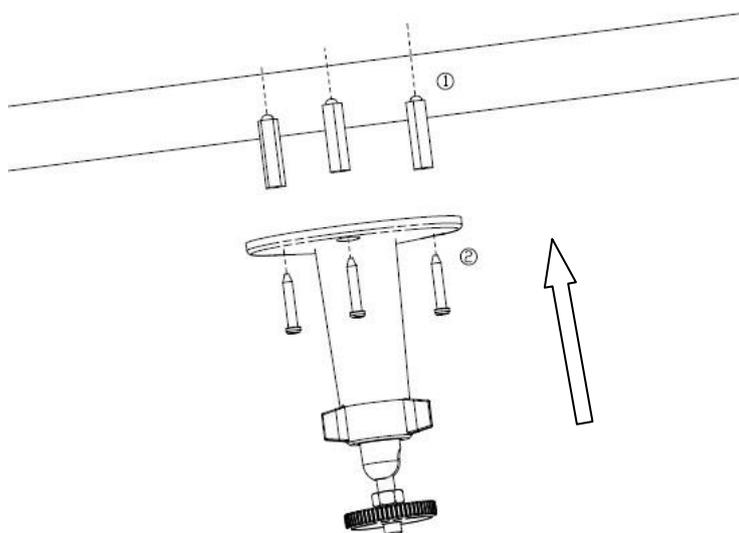

Figure 3.1.1 Fix camera mounting bracket
If it is wall, you need to fix the expand bolt (note: the mounting hole of the expand bolt should align with the bracket) before fixing the bracket, as step ① in Figure 3.1.1. If the wall surface is wooden, the step ① in Figure 3.1.1 can be ignored and you can use the self-tapping screw to fix the bracket